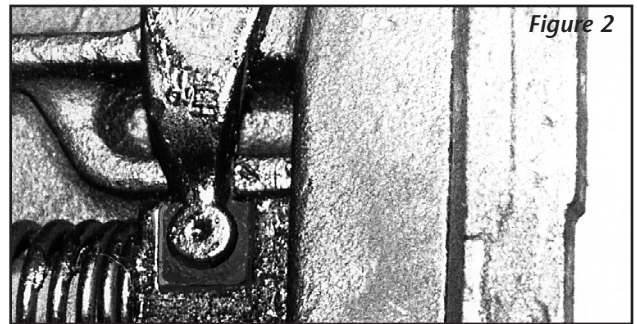

Figure 2
lever must fit freely into the slot in the plunger. If the parts do not fit together freely, it will be necessary to deburr the rounded end of the release lever (*see Figure 2*).
5. Install nylon bushing (24) in the release lever (15) so that the flange is between the casting and lever. Install the release arm (15) in the slot on the plunger (*see Figure 2*), install washer (13) on cap screw (12) and insert through release lever (15) and screw into casting.